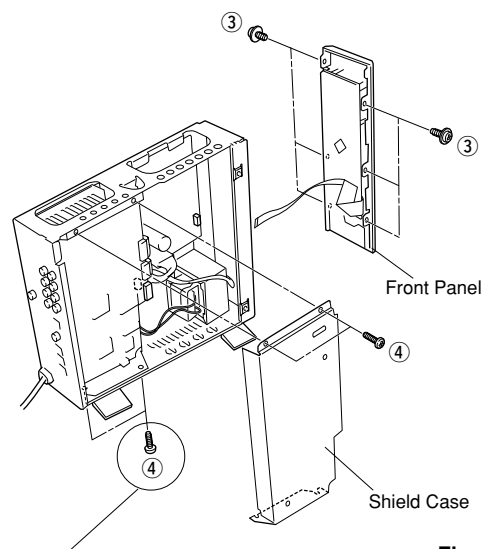

Fig. 2
Remove 6 screws (❸) and then remove the Front Panel in Fig. 2.
Remove 4 screws (❹) and then remove the Shield Case in Fig. 2.